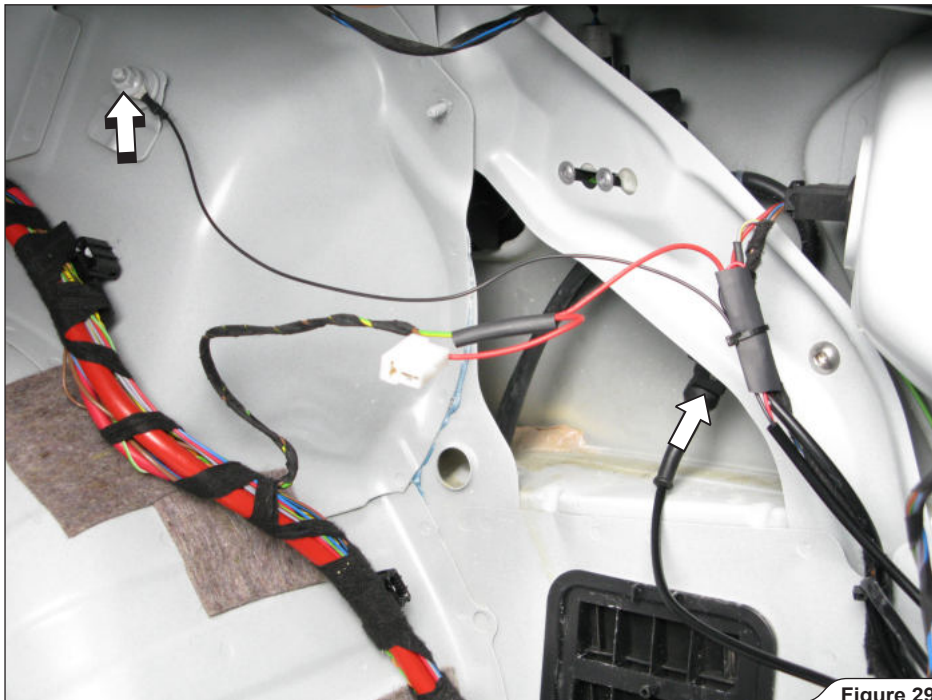

Figure 29
20. **For plug-in socket powered Wireless only:** tighten the ground connector (**black thin wire**) with marked original nut, install the connector to the electromagnetic valve. Secure the wiring harness, using tie wraps (**Figure 29**).